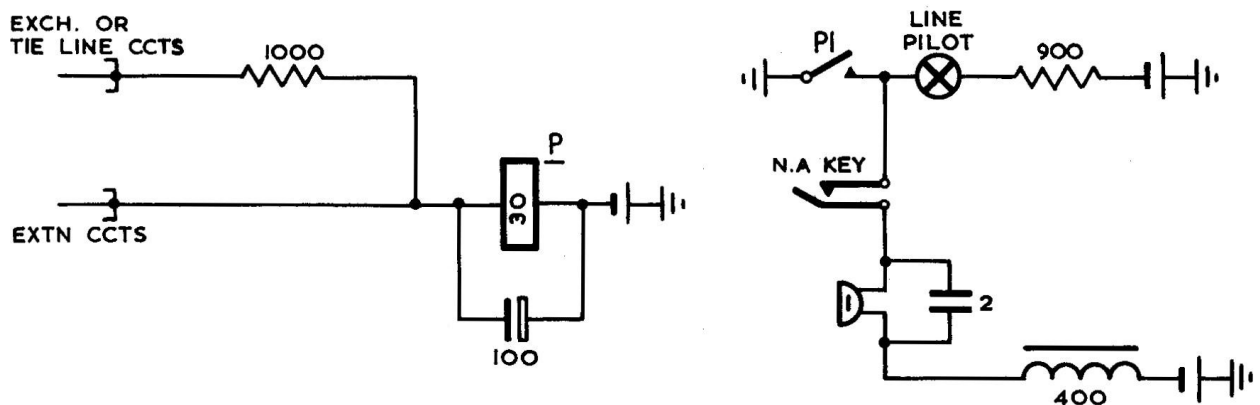

FIG. 28. NIGHT ALARM CIRCUIT.
9.3 Night Alarm. Common to all extension and exchange call circuits is a pilot (P) relay, which operates when a call is received and lights a line pilot lamp (Fig. 28).